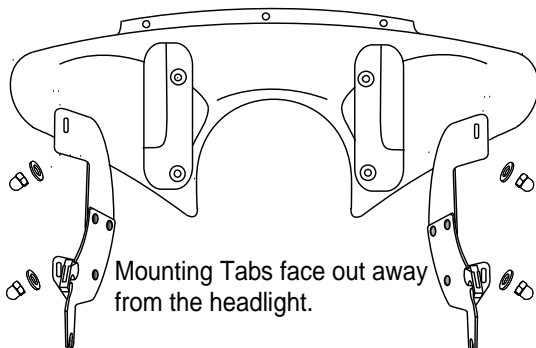

Fig. 2
5. Using a 10mm socket or wrench remove the two screws that hold the headlight bracket to the lower triple tree. Slip throttle ⑤ and clutch ④ brackets under headlight bracket and loosely reinstall original bolts through headlight bracket then fairing mounting bracket, chrome trim and into triple tree (Fig 2)
6. Install longer 8mm screws ⑥ provided with washer ⑨ through fairing mounting brackets then through aluminum spacer provided and into upper triple holes where OEM hardware was attached. Tighten these upper bolts first then tighten headlight bracket bolts (Fig 2)